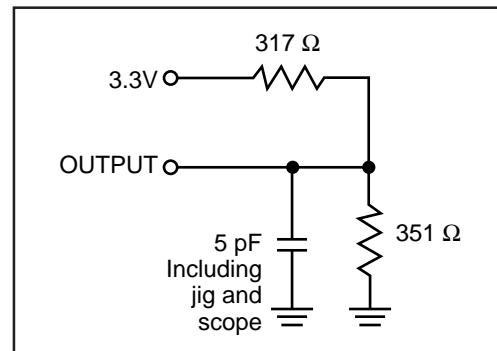

Figure 2
- Tested with load in Figure 2.
2. Tested with load in Figure 2.